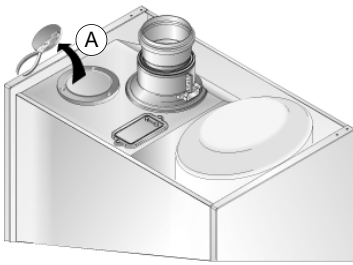

Fig. 2.9
- 1 - Remove the air vent intake in the area indicated in Fig. 2.9, by breaking the perforated ring.